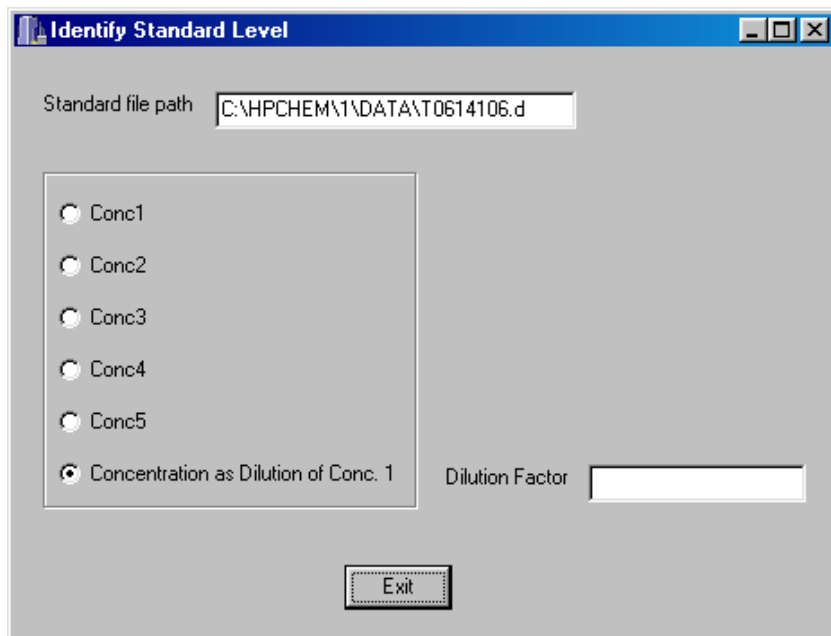

Figure 11 - Standard Level Selection Dialog Box
- The standard level dialog box shown in Figure 11 will be displayed. This dialog is used to select the appropriate concentration (ng) for the sample. The radio buttons correspond to the standard concentrations entered in the compound edit screen (Figure 6). Select a standard concentration or a dilution of standard concentration 1. Enter the dilution factor if a dilution is used.